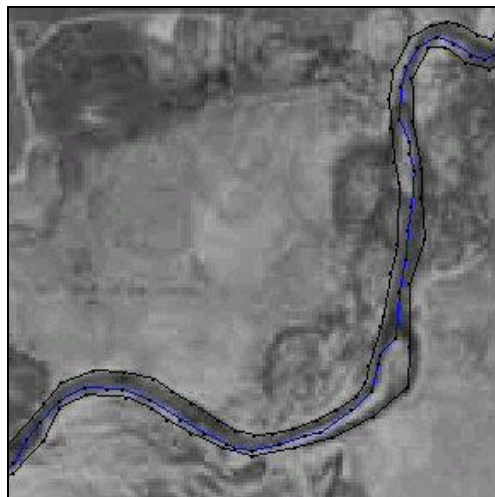

Figure 4-1: Centerline and bank arcs.
1. Zoom in close enough around a section of the feature arcs so that you can see three distinct arcs as shown in Figure 4-1